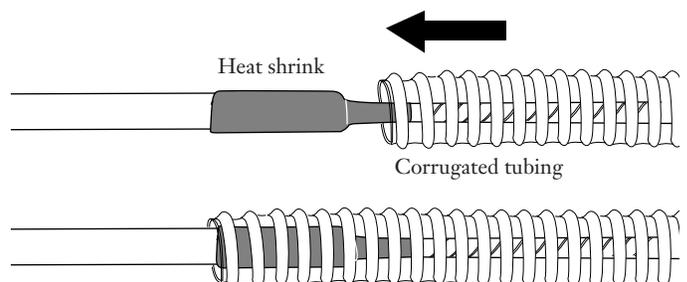

Figure 2
4.3 Slide the corrugated tubing over the connectors / fanout legs until it covers the end of the cable assembly's heat shrink (Figure 2).